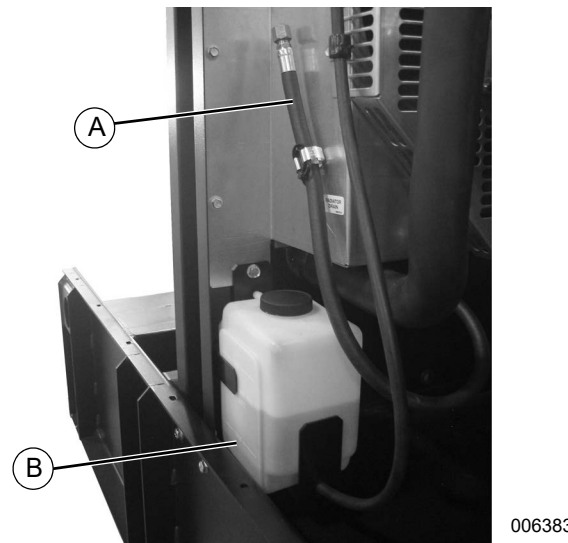

Figure 5-15. Coolant Overflow Reservoir and Drain Hose (3.3L Engine)
1. See Figure 5-15. Verify coolant level is between HOT and COLD marks on overflow reservoir (B). Coolant expands when hot; coolant level may be higher than HOT mark. Do not add coolant higher than HOT mark.
3. Inspect coolant hoses (A) for leaks. Tighten hose clamps, if necessary.